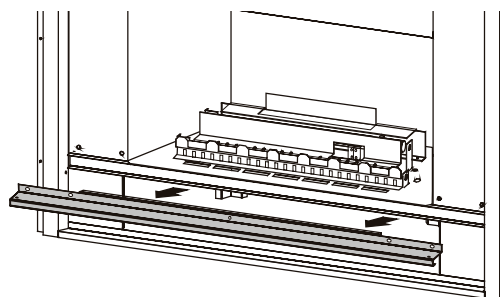

Figure 13. Removing the bottom door rail.
3. Remove the bottom door rail, as shown in figure 13.